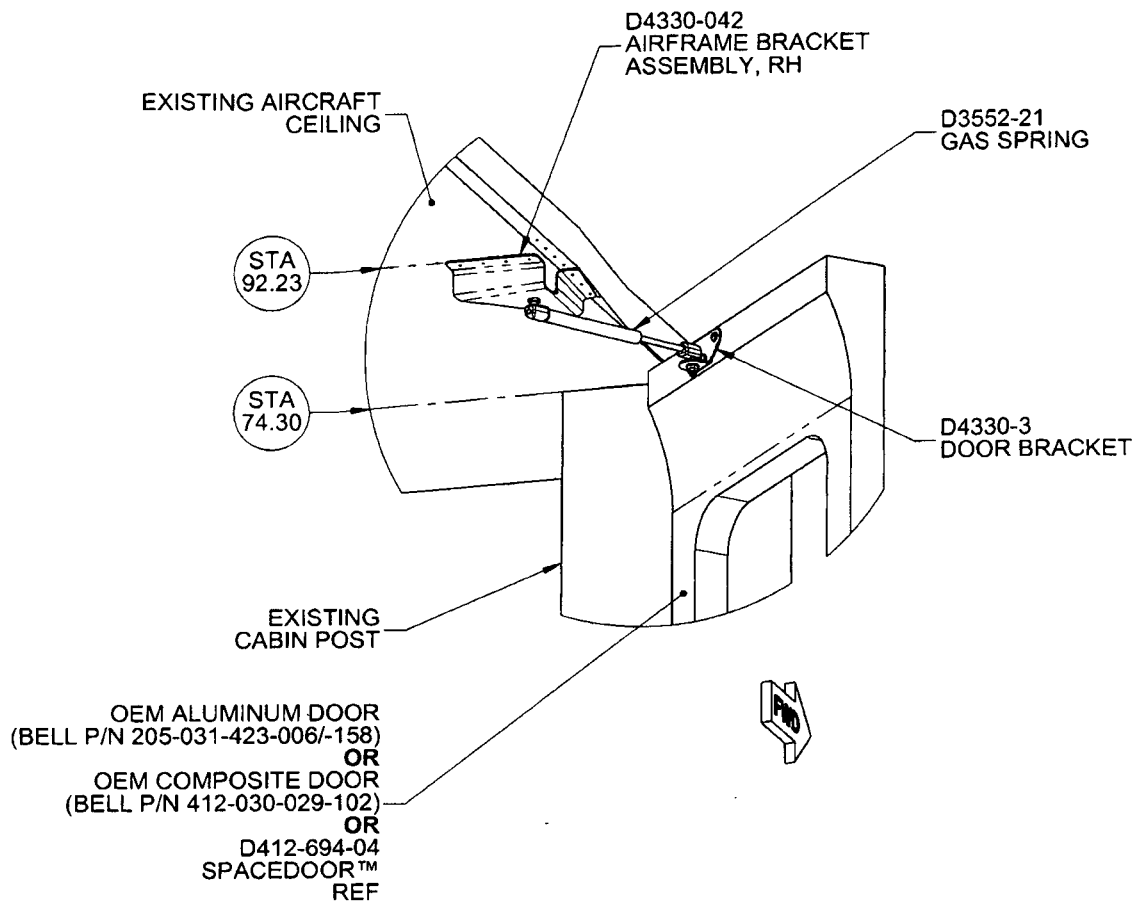

FIGURE 2: INSTALLATION DETAIL
14. Install D3552-21 Gas Spring onto the D3622-1 Ball Studs per Figure 2.
2. Using Figures 2 and 3 and dimensions shown as reference, locate D4330-042 Airframe Bracket Assembly, RH on the intersection of the existing aircraft rivet lines. The angled part of D4330-042 Airframe Bracket Assembly, RH is required to pick up on a minimum of 3 rivets. The bracket may be hand formed as necessary to improve fit with the contoured ceiling.
15. Install D3552-21 Gas Spring onto the D3622-1 Ball Studs per Figure 2.